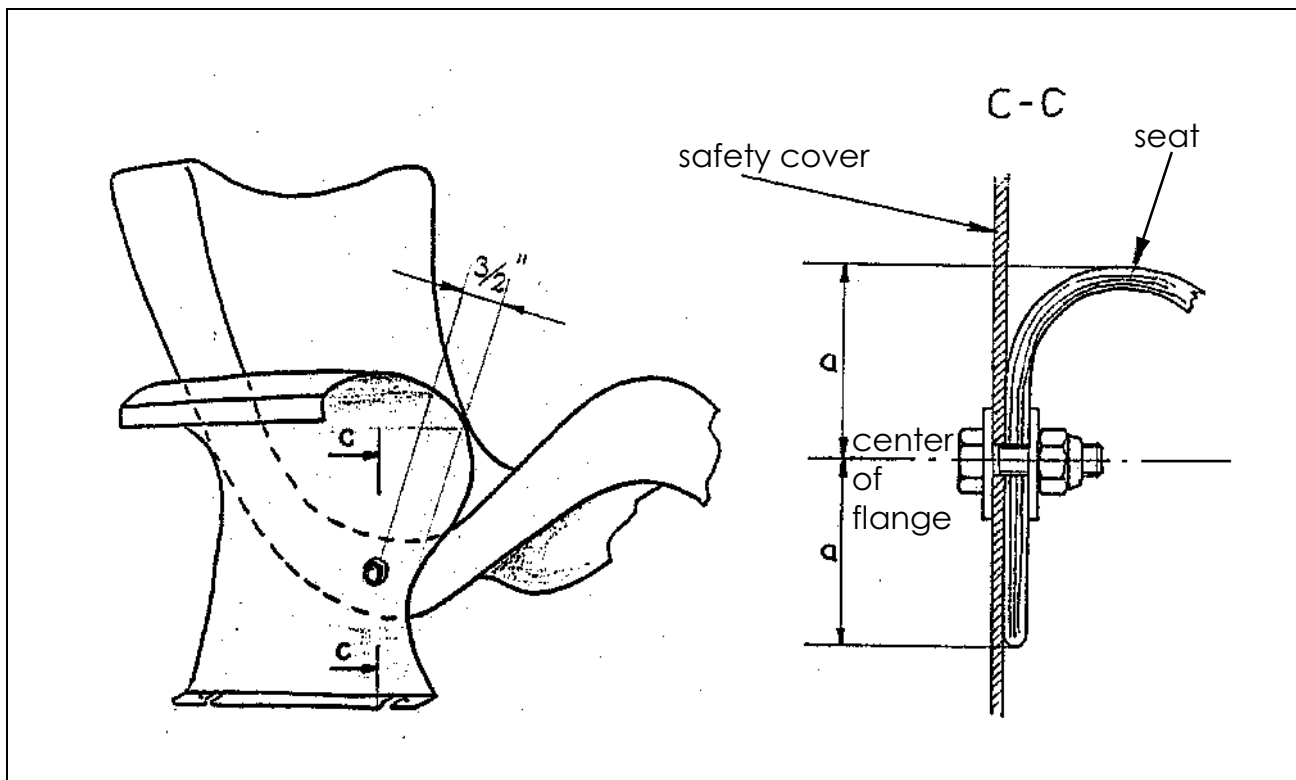

figure 4
- Drill a boring 6,3mm (1/4") each side in this point where seat and safety cover are crossing as shown in figure 4.
- Attach safety cover to seat using M6-bolts, M6-stopnuts and M6-washers as shown in figure 4.